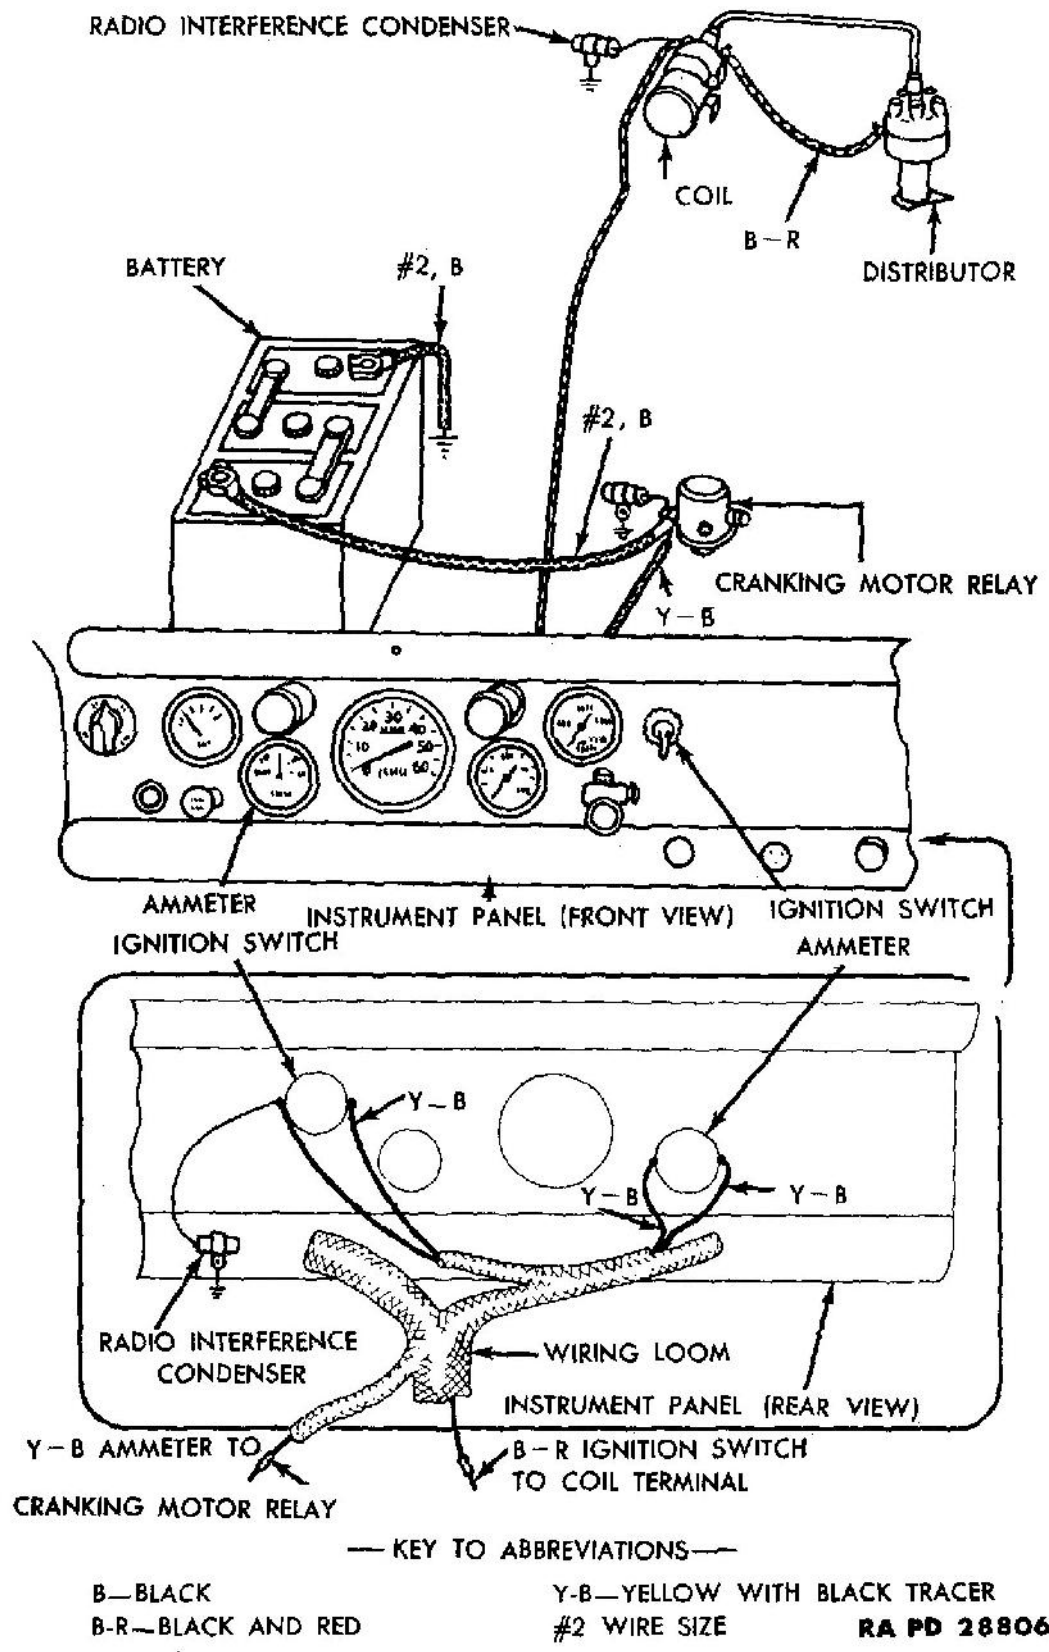

Figure 18 - Ignition Circuit
a. Description. The ignition system consists of the battery, ignition switch, distributor, ignition coil, spark plugs and the necessary connecting wires (fig. 18).